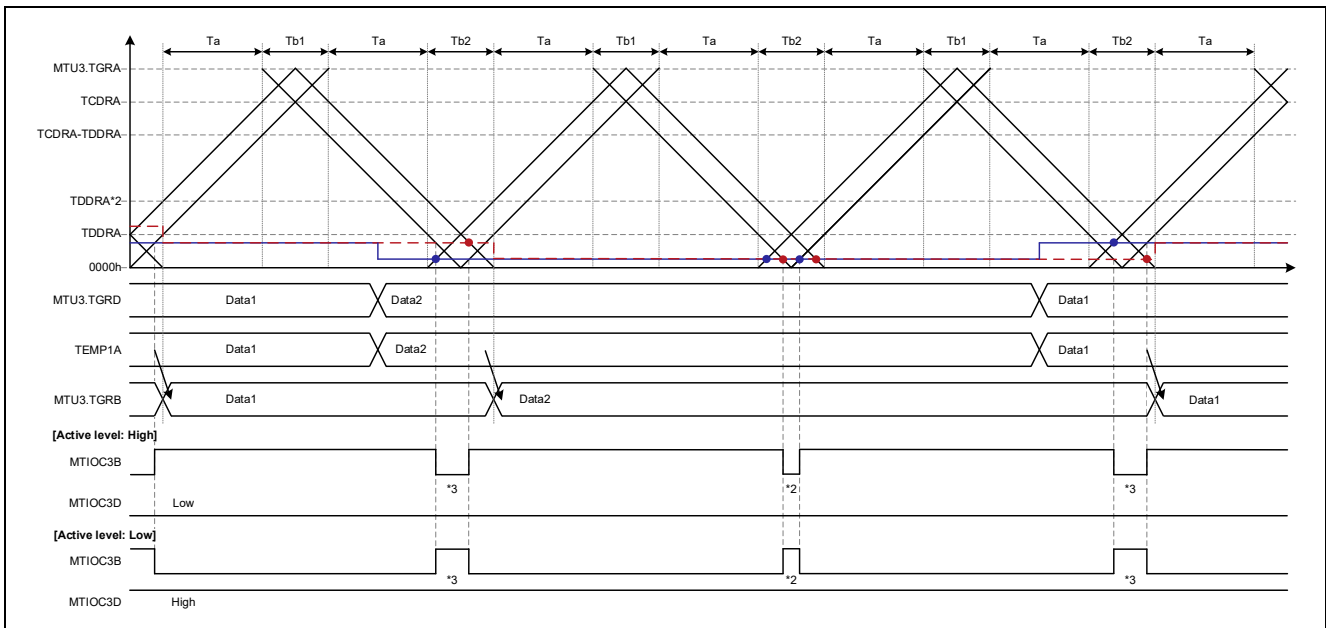

Figure 1.27 Complementary PWM Mode 2 Operation Example (Output Start: Trough, Overwrite in Ta Interval, Duty: B → A → B)
- [Operation example 2] Figure 1.27, Complementary PWM Mode 2, Output Start: Trough, Ta Interval Overwrite, cautions 2 and 3
Figure 1.27 shows an operation example of buffer overwrite in the Ta interval in complementary PWM mode 2. Except for the difference in the buffer overwrite timing, the operation is the same as that shown in Figure 1.26.